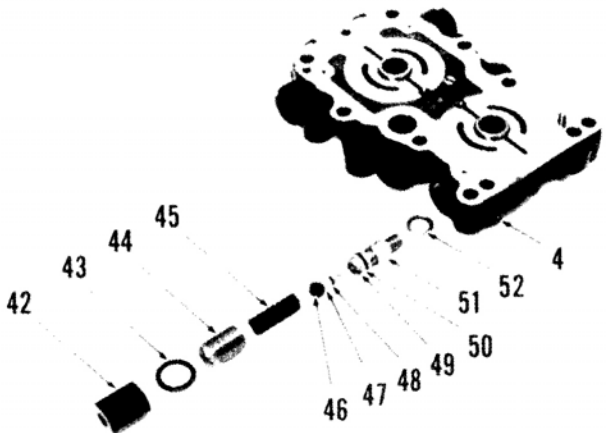

**Fig. 63**—View showing procedure for measuring side clearance (C) between trochoid rotor (24) and straightedge (S). Refer to text.
Recommended side clearance (C—Fig. 63) between trochoid rotor (24) and straightedge (S) measured as shown should be 0.030-0.045 mm (0.0012-0.0018 inch).